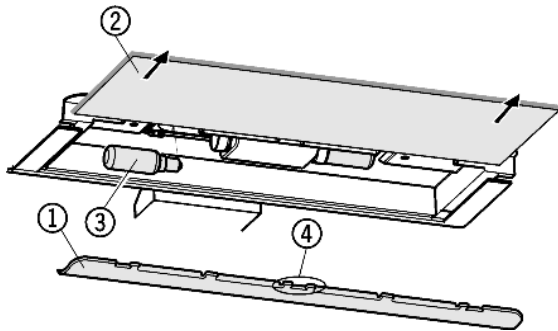

Fig. 35
- ▶ To remove the cover Fig. 35 (1): put your finger behind the cover and disengage it.
- ▶ Pull out the glass shelf Fig. 35 (2).
- ▶ Change the bulb Fig. 35 (3).
- ▶ Attach the cover again, engage it at the right and left and pay attention that the middle hook Fig. 35 (4) grips over the glass shelf.